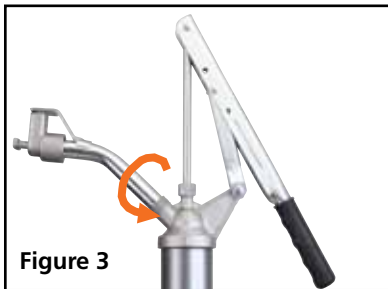

Figure 3
2. Screw the delivery spout clockwise (Fig. 3) onto the pump head. Tighten securely to eliminate possibility of leakage.